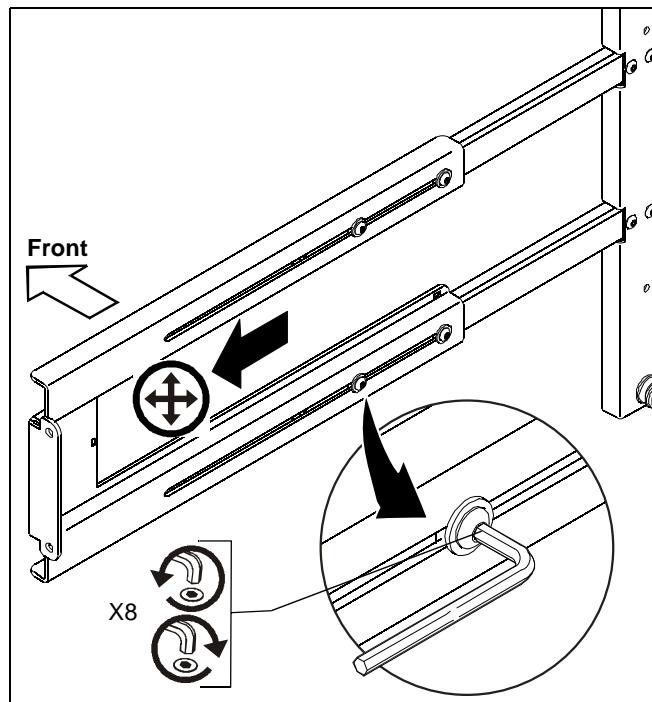

Figure 5
3. Loosen eight button head cap screws and slide speaker rails outward until required distance between speakers is obtained. (See Figure 5)